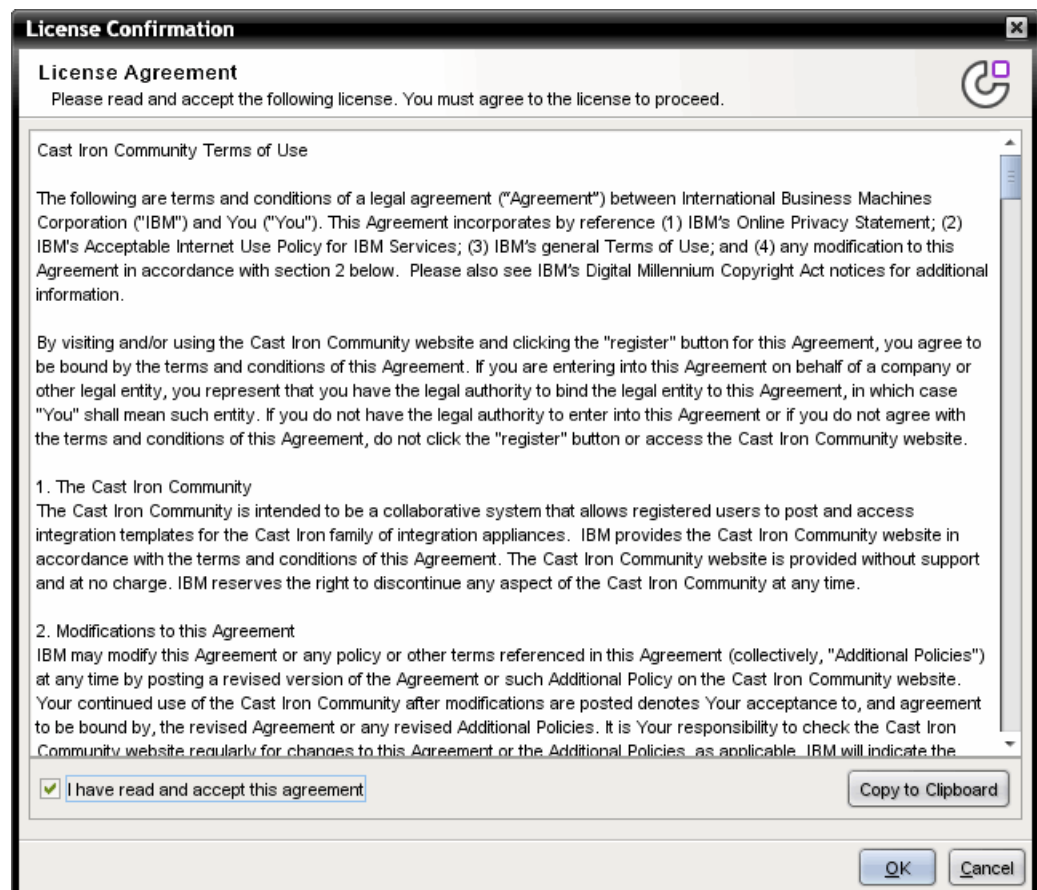

Figure 7-20 License agreement
6. Click **Finish**. You are prompted to accept a license agreement, as shown in Figure 7-20. Read the license agreement, and then select the **I have read and accept this license agreement** option. Click **OK**, and the TIP is uploaded to the Cast Iron solutions repository.